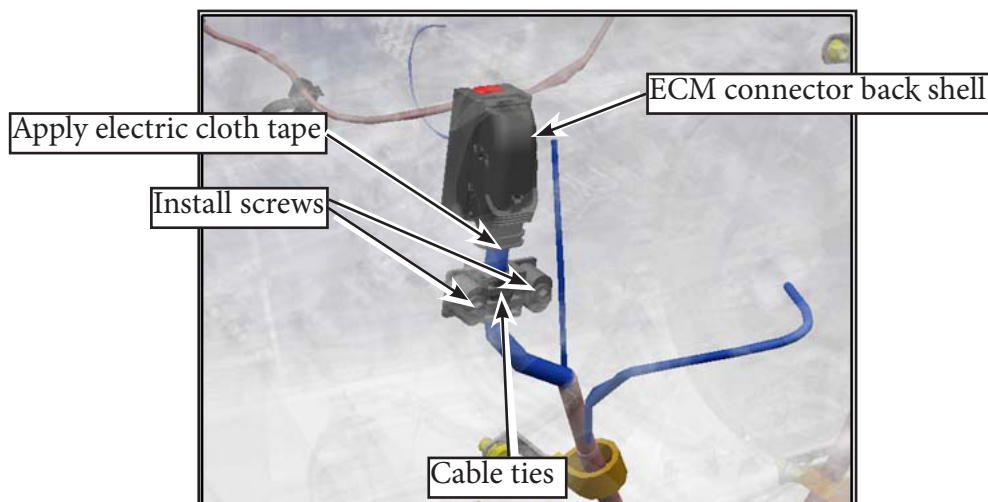

Figure 36 - Reassemble the ECM Connector
- 2.23. Apply electric cloth tape over the front-to-back cable and the exposed wiring at the ECM connector. Install the ECM connector back shell and the 3 cable ties. Connect the ECM connector to the ECM and install both strain relief screws. Reconnect any splice connector disconnected earlier (see Figure 36).